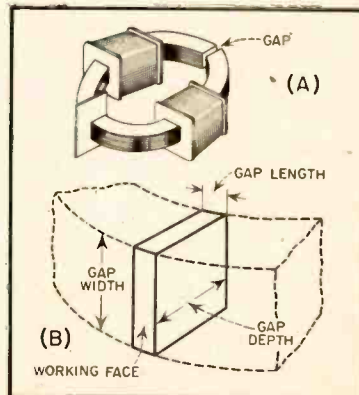

Fig. 3. Recording-playback head terminology: (A) Gap placement in recording head; (B) gap dimensional terminology.
**Gap Depth:** The dimension of the gap along the transverse axis of the tape. Short depths provide less leakage and enable full magnetic tape modulation with lower recording levels. (See Fig. 3).